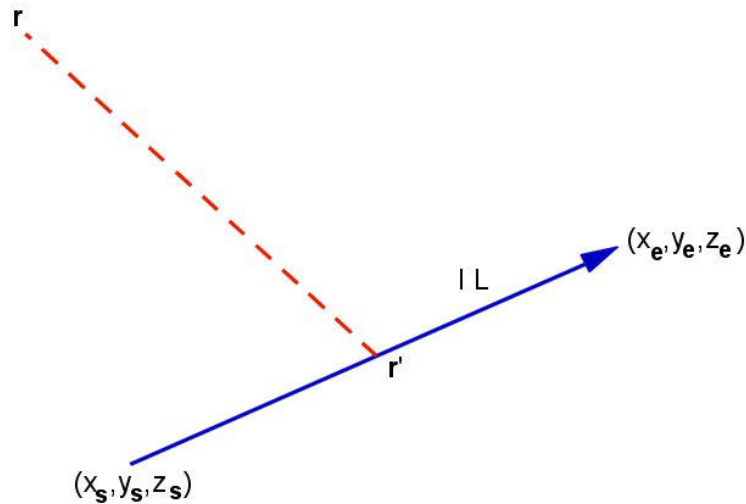

Figure 53: Current-element geometry.
**Magnum** uses a simple yet versatile method to define three-dimensional coils of any degree of complexity. The program expects to receive a list of short current elements in the **WND** input file. Section 3.13 describes the file format. Figure 53 shows the geometry of a filamentary element of length